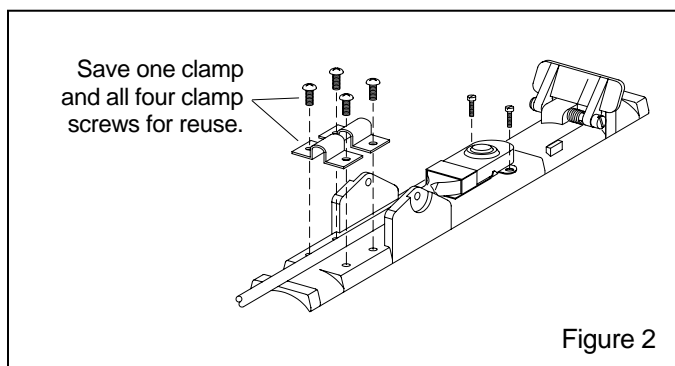

Figure 2
**2.0 Remove Old Switch, Figure 2**